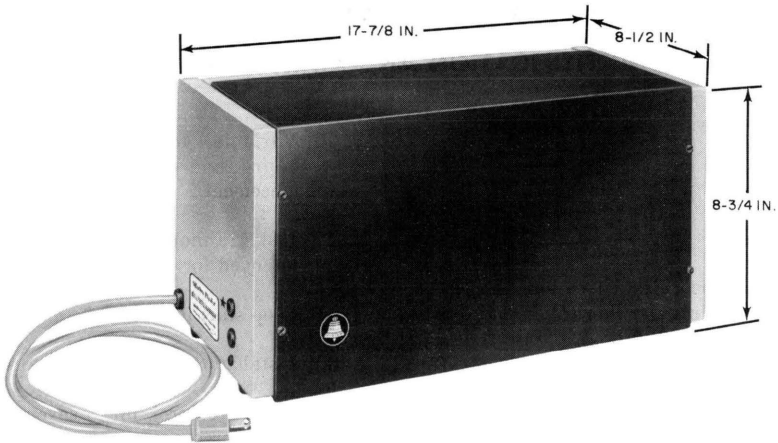
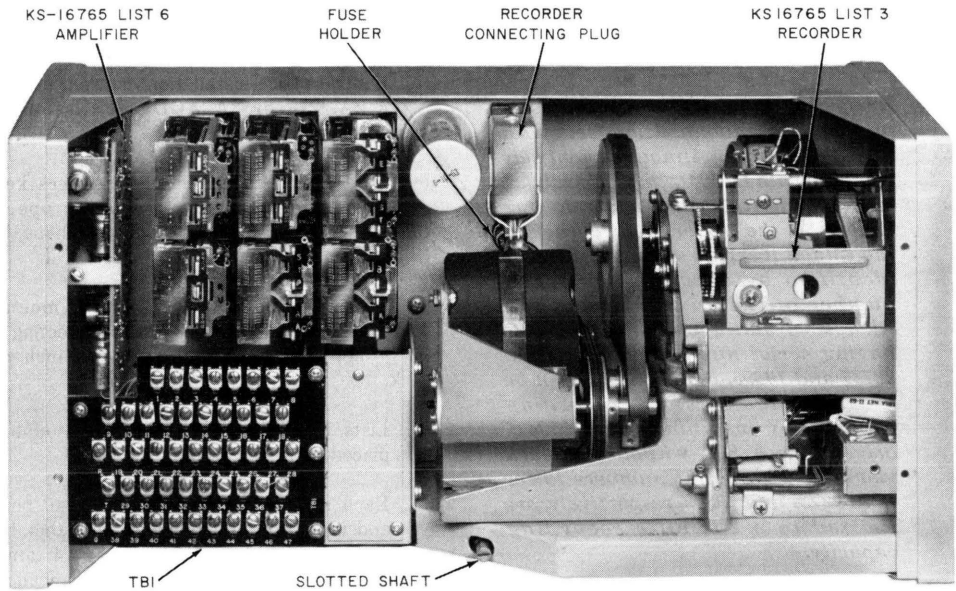

Fig. 1—KS-16765, Lists 1 and 2 Announcement Set Dimensions
Fig. 2—KS-16765, List 1 Announcement Set, Front Cover Removed
**2.01** The KS-16765, Lists 1 and 2 announcement sets (Fig. 1) feature:
**2.05** Each set weighs approximately 40 pounds and is housed in a metal cabinet that has a removable front and back (Fig. 2, 3, 4, and 5). The cover has a blue gray enamel finish and the chassis has a light olive gray finish. Dimensions are shown in Fig. 1.
**2.07** A 1/2-amp fuse is provided in these sets for electrical protection (Fig. 2 and 4).
**2.08** The KS-16765, Lists 1 and 2 announcement sets (Fig. 2, 3, 4, and 5) incorporate the following:
(1) Remove announcement set front cover.
- Loosen four captive screws on front cover (Fig. 1).
(2) Remove recorder connecting plug from plug-in receptacle.
(3) Remove List 3 recorder.
(4) Insert new recorder into cabinet.
(5) Release bail shipping lock.